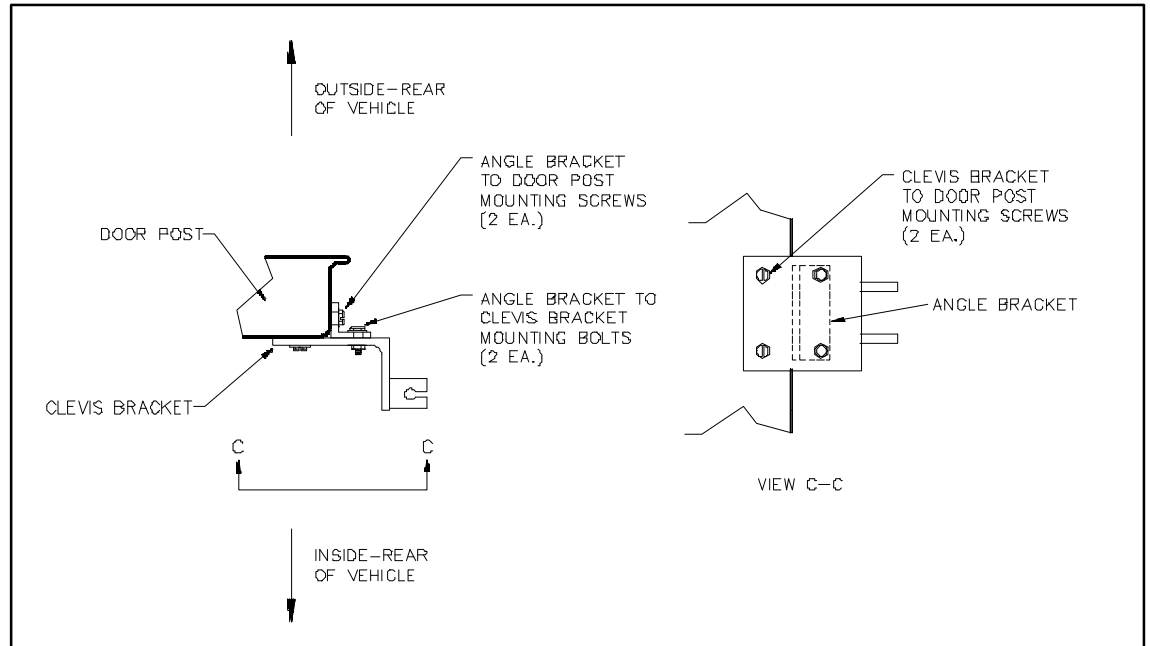

FIGURE 2-2: RIGHT-REAR BRACKET ASSEMBLY INSTALLATION
- d. Refer to **Figure 2-2**. (Figure also applies to left-rear door installation except viewed in the opposite direction. Bracket appearance may vary slightly for different vehicle manufacturers.) Install and fasten the right and left bracket assemblies to the door posts.